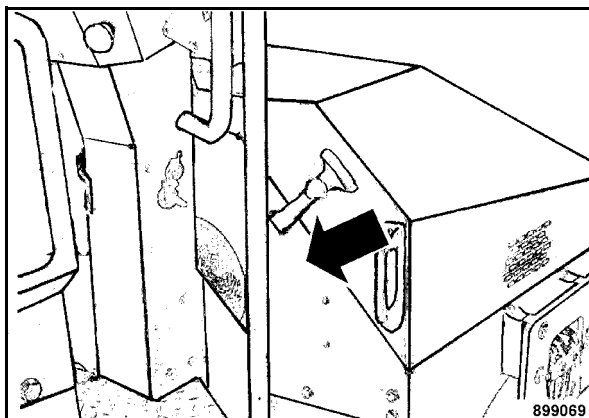

Fig. 88
- Open the engine compartment flap and remove the back wall (Fig. 88).